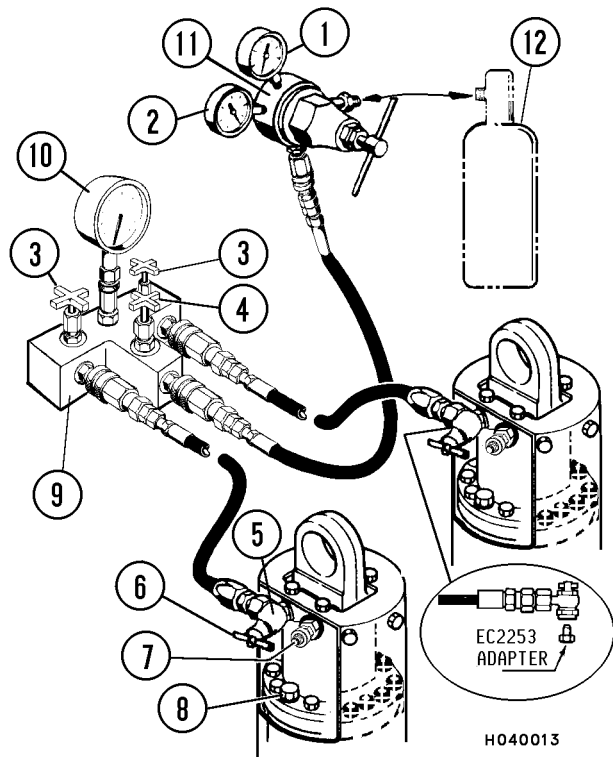

FIGURE 4-6. NITROGEN CHARGING KIT (EC3331)
NOTE: Before installing regulator (11, Figure 4-6), blow out the cylinder connector with nitrogen gas, 965 kPa (140 psi) or more, to clean out all dirt or dust. Dirt or dust in the system can cause suspension failures.
3. Install the nitrogen charging kit to the suspensions, as shown in Figure 4-6.
4. Slowly turn the handle of regulator (11) clockwise. Adjust the pressure, shown on gauge (2), to the required charging pressure (refer to the chart in Figure 4-7). Then, open valves (3 & 4, Figure 4-6) to fill the suspension cylinders with nitrogen gas.
5. Fill the left and right cylinders at the same time. Verify the required charging pressure on gauge (10) by closing valve (4).
6. When the left and right cylinders reach the specified length as shown in Figure 4-7, close valve (4, Figure 4-6) to stop the flow of nitrogen gas. Turn the handle of regulator (11) counter-clockwise to close the valve.